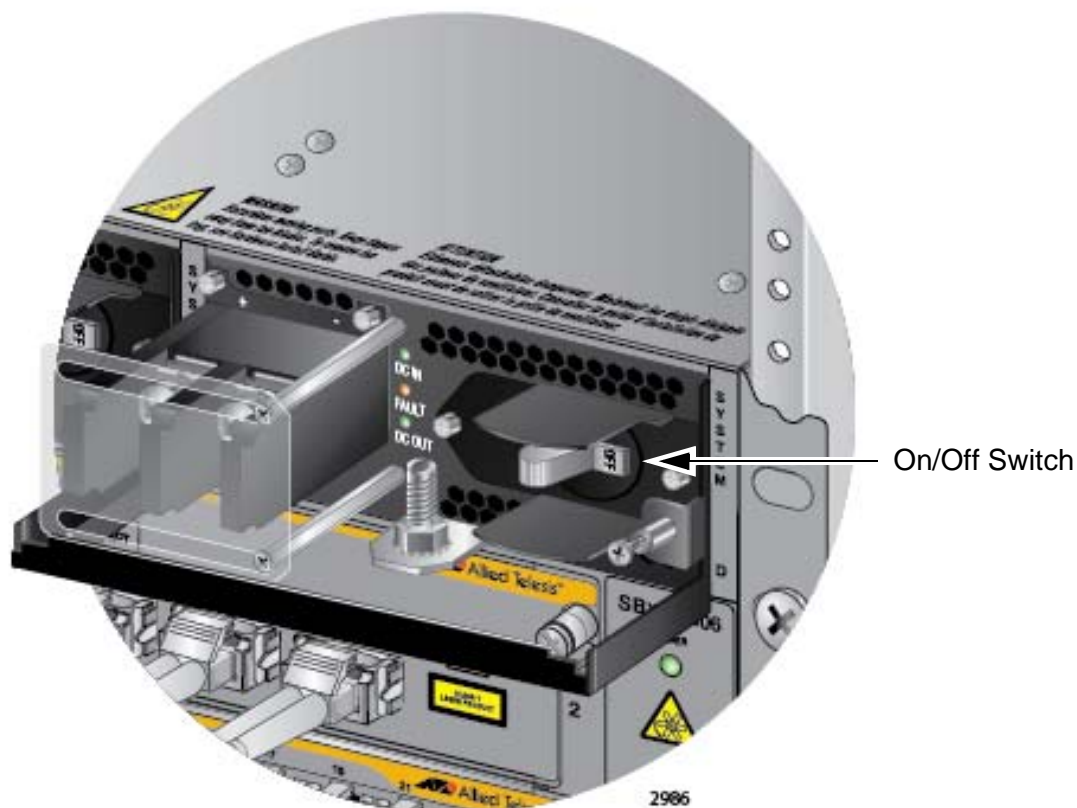

Figure 109. On/Off Switch on the AT-SBxPWRSYS1 DC Power Supply
3. Verify that the On/Off switch on the AT-SBxPWRSYS1 DC Power Supply is in the Off position. Refer to Figure 109 on page 170.
13. Turn the On/Off switch on the power supply to the On position. See Figure 109 on page 170.
2. Verify that the On/Off switch on the AT-SBxPWRSYS1 DC Power Supply is in the Off position. Refer to Figure 109 on page 170.
12. Turn the On/Off switch on the power supply to the On position. See Figure 109 on page 170.
11. Turn the On/Off switch on the power supply to the On position. See Figure 109 on page 170.